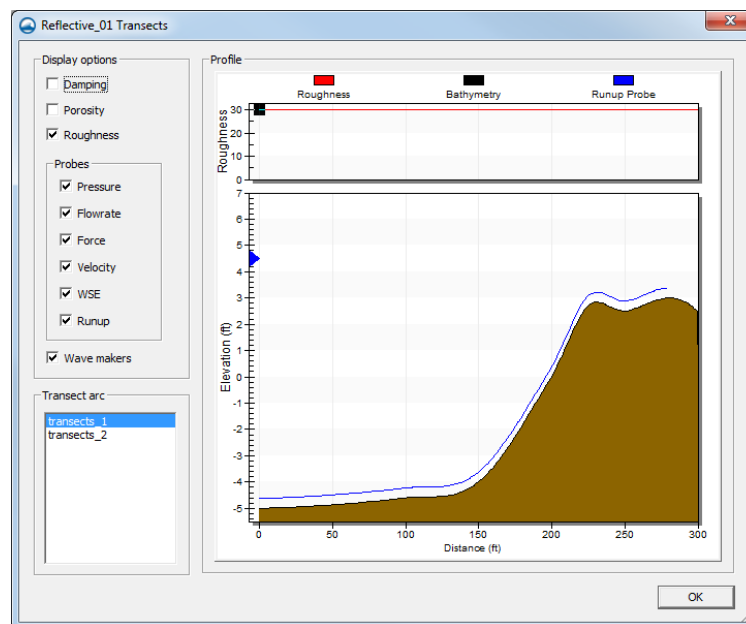

Figure 7 Wave maker marked by blue arrow
7. Right-click “ Reflective_01” and select **View transects profile...** to bring up the *Reflective_01 Transects* dialog (Figure 7).